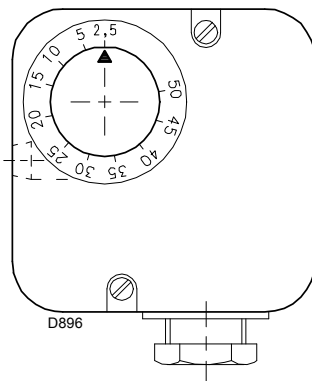

Fig. 35
- Adjust the minimum gas pressure switch to the start of the scale (Fig. 35).